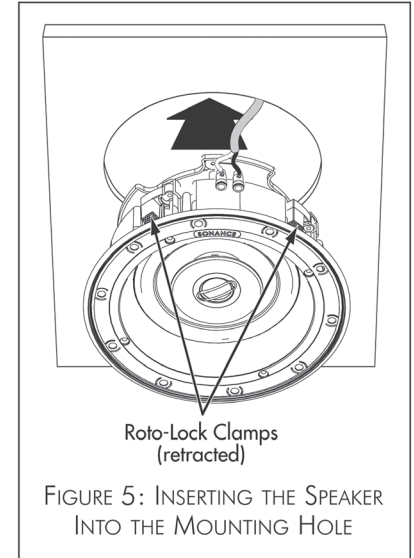

FIGURE 5: INSERTING THE SPEAKER INTO THE MOUNTING HOLE
3. Make sure all the Roto-Lock toggle feet are retracted so that they are tucked within the mounting hole's border. Insert the speaker into the hole in the ceiling (Figure 5). The Roto-Lock system can accommodate a ceiling material thickness of 1-1/4" (32mm) with the toggle foot cap removed the system can accommodate a ceiling material thickness of 1-7/8" (48mm).